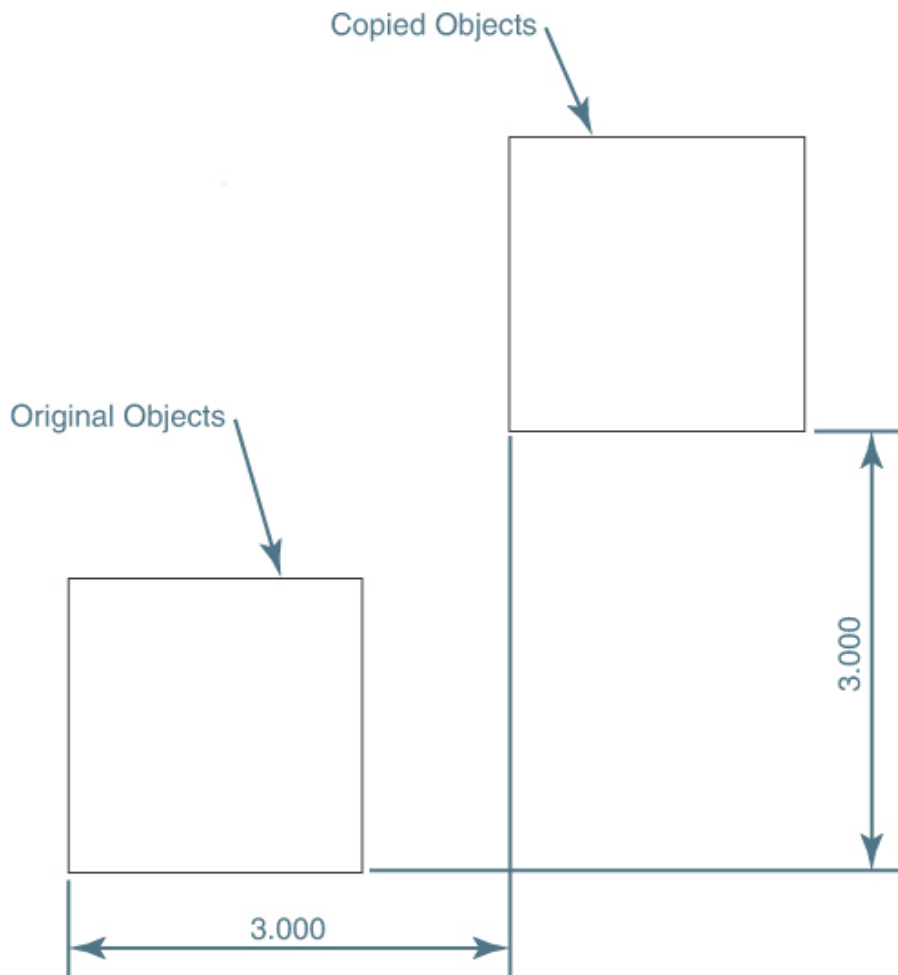

Figure 7-27
After you select the **Displacement** option, you can enter the displacement distance using either rectangular (x,y) or polar (@distance<angle) coordinates. Entering **3,3<Enter>** results in the copy operation shown in Figure 7-27.
- 10** Press **<Enter>** again to use the first point entered as the displacement distance. The square is copied +3 units on the X-axis and +3 units on the Y-axis, as shown in Figure 7-27.